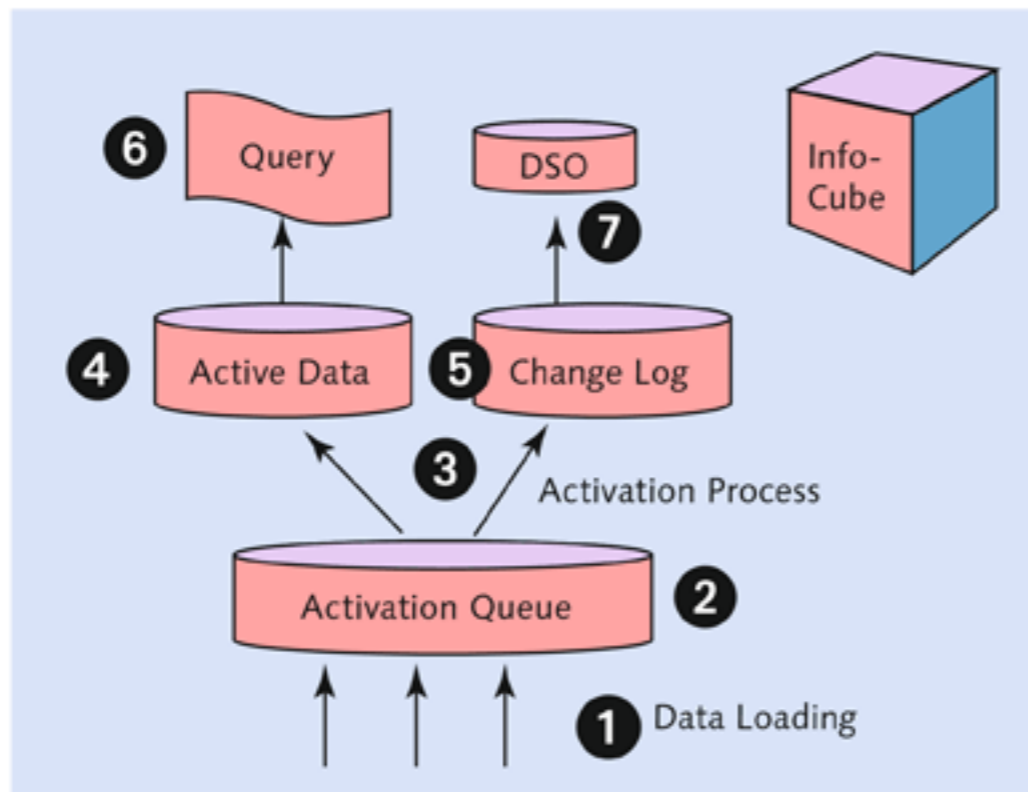

Figure 4.3 Architecture of a Standard DSO
As we've mentioned, the standard DSO consists of three tables: the activation queue (new data), active data, and change log tables (Figure 4.3). These are discussed in more detail next.
The activation queue (new data) table is only relevant for standard DSOs. When data is loaded into a standard DSO (1 in Figure 4.3), it's first stored in this table. The key fields of this table are technical and consist of the request SID (*surrogate ID*), the package ID (data package number), and the record number. The *request SID* is a number given to each new data loading, and each request SID is divided into a number of data sets known as the *package ID*. Individual records in each package ID are assigned a number, starting from 1, and this is the *record number*. The data available in the activation queue (new data) table is neither available for reporting nor for sending to another data target, because data in the activation queue (new data) table, by definition, hasn't yet been activated. The activation queue (new data) table is shown as 2 of Figure 4.3.
The data from the active data table is generally used for reporting, as shown in 6 of Figure 4.3. In some cases, this table also supplies the full data upload to another data target. The key field chosen while designing a DSO is the key of this
The change log table is related to the other two tables in such a way that the activation process moves data from the activation queue (new data) table to the change log table (5 of Figure 4.3) and active data table (4). When data from a standard DSO is updated to other data targets, the delta load is supplied from the change log table (7).